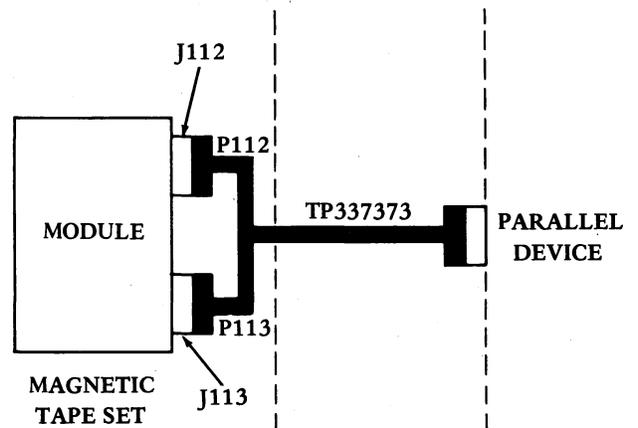

Figure 13 - Magnetic Tape Set Interfaced to Parallel Device (other than CDT or Cluster Controller)
3.47 This connection is achieved as shown in Figure 13. The procedure is as follows: